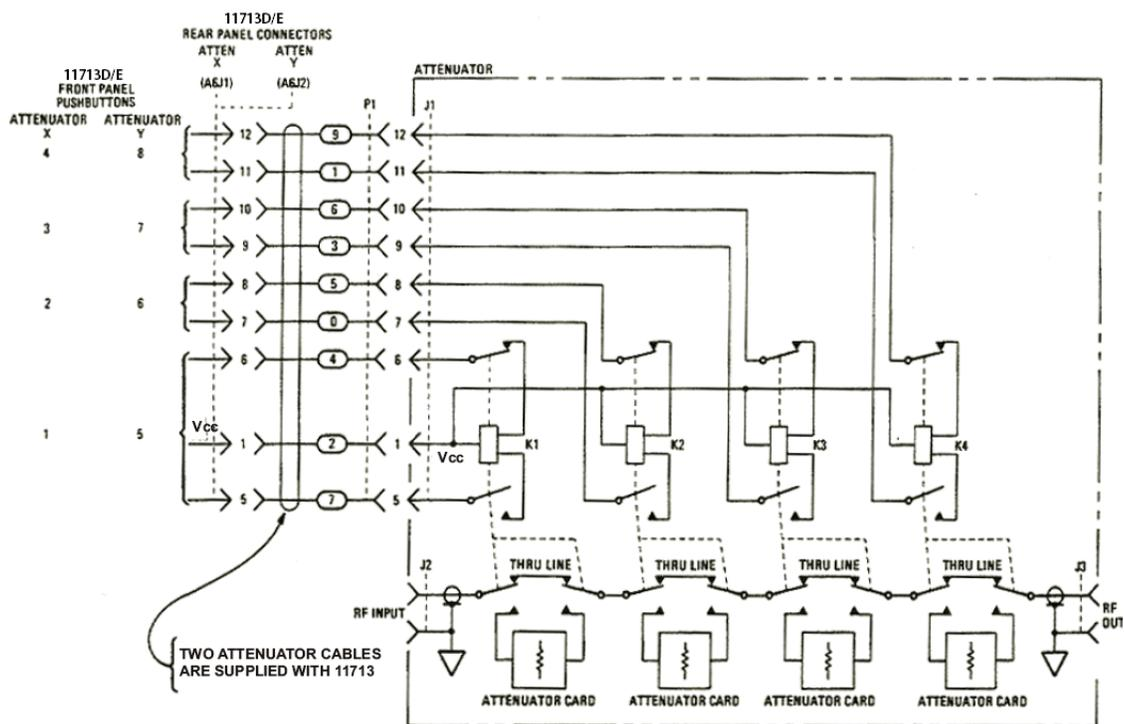

Figure 2-2 Typical connection for a programmable four-section attenuator
- A typical connection for a programmable four-section attenuator to 11713D is illustrated in Figure 2-2, together with pin number for each connector.
- Connections to Keysight 8762 or 8765 series coaxial switches can also be made to the ATTEN X output or ATTEN Y output as illustrated in Figure 2-2.